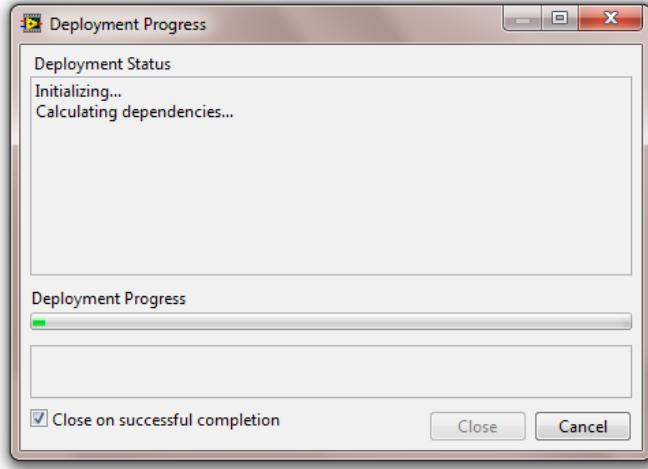

FIGURE 4.16 The deployment pop-up window.
5. Click the white "Run" arrow on your Joystick Info VI. This will cause it to be compiled and downloaded to the NI roboRIO. You will get a pop-up window that starts out looking like Fig. 4.16. You may be asked to save a lot of VIs you have never heard of. Just agree to save them. Sometimes this process will fail, but then work fine when you try it again. If it continues to fail, LabVIEW probably can't find your NI roboRIO by its computer name. Open a Windows Command prompt window and try to ping the roboRIO by its name. In our example this is: *roboRIO-4150.FRC.local*. If the ping fails, there is a network problem, such as cabling, WiFi, or Windows firewall issue. If the ping command succeeds, first try exiting LabVIEW and restarting it. If that doesn't work you